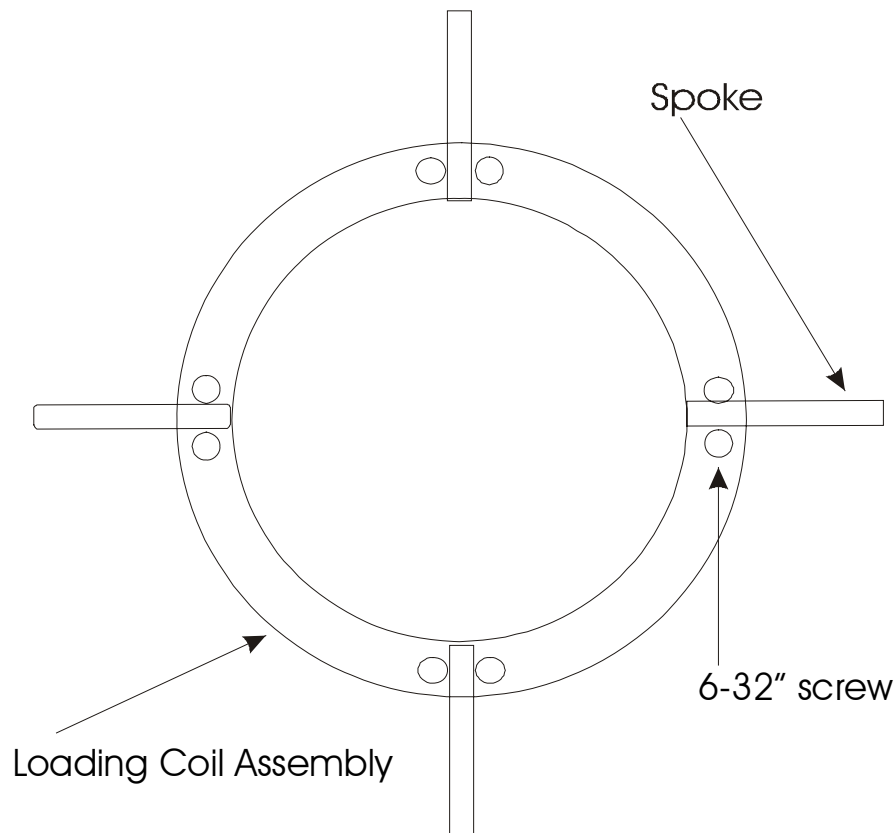
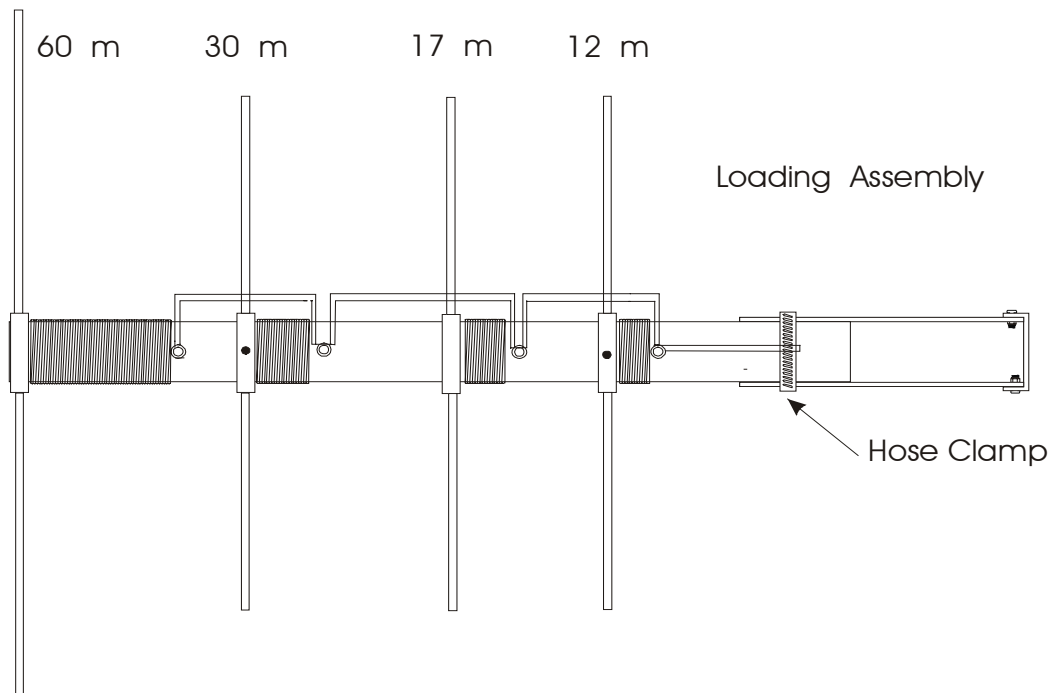

Figure 3
Figure 4
- [] 12. Install the short 6/32" screws in the rings of the loading coil assemblies and place a 6/32" nut on each screw. Place eight (8) of the 36" capacitance spokes into the eight holes on the top rings of the loading coil assembly (60M). Then, tighten the screws until the spokes are snug. Now you should be able to turn the coil assembly over and they should balance on the long spokes. See Figure 3 and Figure 4.
- [] 13. Install four 36" capacitance spokes in the next sets of rings (30M). Again, tighten these spokes as was done in step 9. (See Figure 3 and Figure 4)
- [] 14. Install four 21" capacitance spokes in the remaining two sets of rings (17/12M). Again, tighten these spokes as was done in step 9. (See Figure 3 and Figure 4)
- [] 15. Slide a hose clamp over the top radiator. Mount the top coil assembly to the antenna by inserting the fiberglass insulator in the top radiator. Tighten the metal strap from the coil assembly under the hose clamp. See Figure 4.